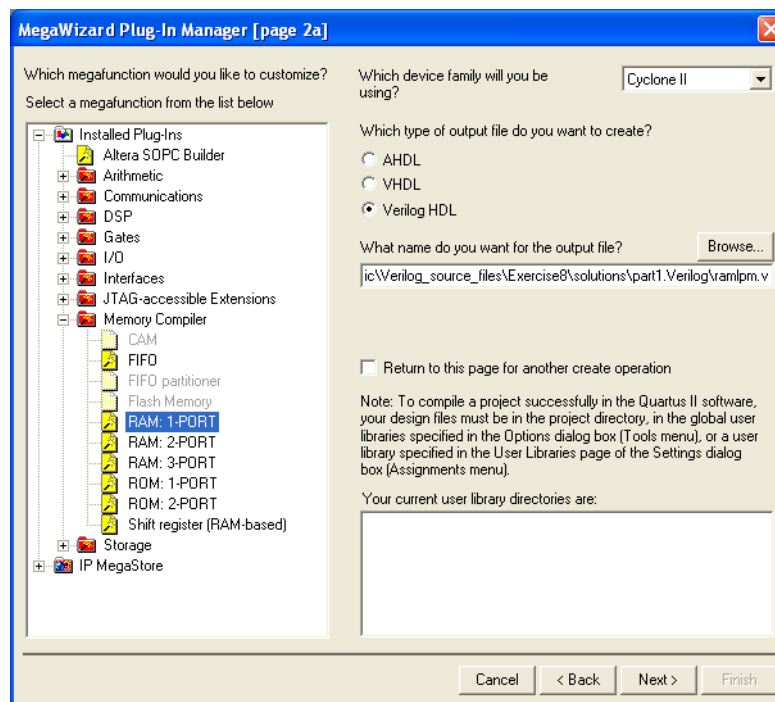
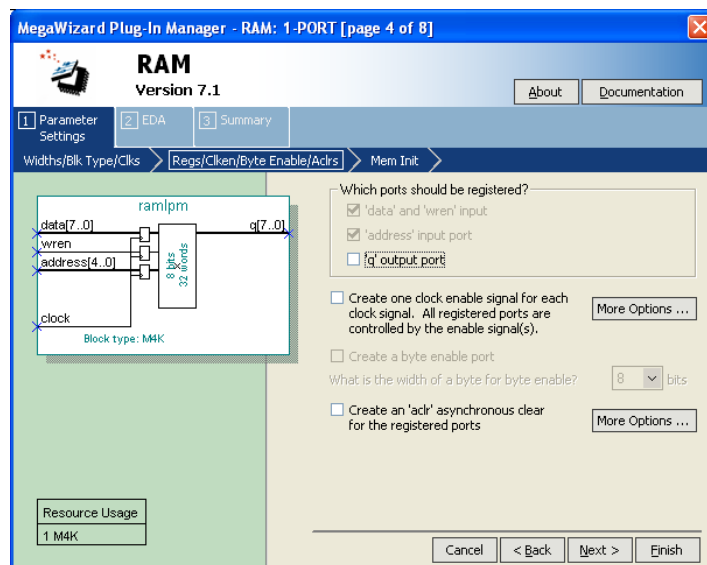

Figure 2. Choosing the *RAM: 1-PORT* LPM.
Figure 3. Configuring input and output ports on the *RAM: 1-PORT* LPM.
2. You can learn how the MegaWizard Plug-in Manager is used to generate a desired LPM module by reading the tutorial *Using Library Modules in Verilog Designs*. This tutorial is provided in the University Program section of Altera's web site. In the first screen of the MegaWizard Plug-in Manager choose the *RAM: 1-PORT* LPM, which is found under the **Memory Compiler** category. As indicated in Figure 2, select Verilog HDL as the type of output file to create, and give the file the name *ramlpm.v*. On the next page of the Wizard specify a memory size of 32 eight-bit words, and select M4K as the type of RAM block. Accept the default settings to use a single clock for the RAM's registers, and then advance to the page shown in Figure 3. On this page *deselect* the setting called 'q' output port under the category Which ports should be registered?. This setting creates a RAM module that matches the structure in Figure 1b, with registered input ports and unregistered output ports. Accept defaults for the rest of the settings in the Wizard, and then instantiate in your top-level Verilog file the module generated in *ramlpm.v*. Include appropriate input and output signals in your Verilog code for the memory ports given in Figure 1b.